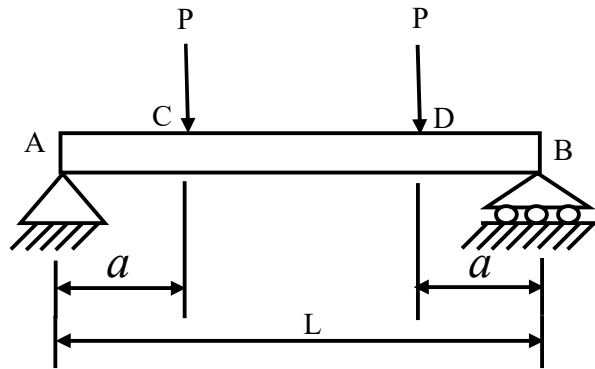

Figure 4
Q.5(b) A simply supported beam AB carrying two concentrated loads of P at points C and D as shown in Figure 4. Draw the shear force and bending moment diagram of the beam. The beam has length L . [5]